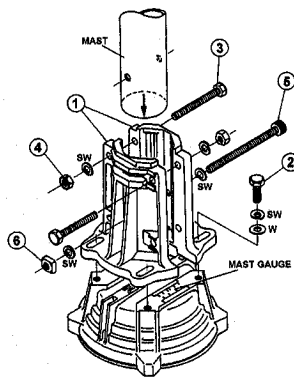

Figure 13
4. Partly tighten the mast clamps ① to the rotator housing using the supplied M8 x 25 bolts ②, spring washers and flat washers (see Figure 13).
5. Using a "gin pole" or other raising fixture, insert the antenna mast through the bearing from above, and set the mast in the rotator's mast clamps, then partly tighten the mast clamps using the supplied M8 x 70 bolts ③ and spring washers.